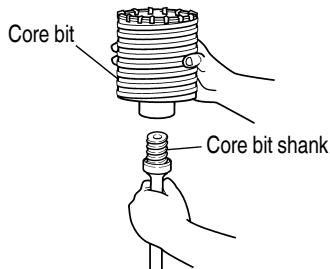

Fig. 12
- (1) Mount the core bit to the core bit shank. (Fig. 12)